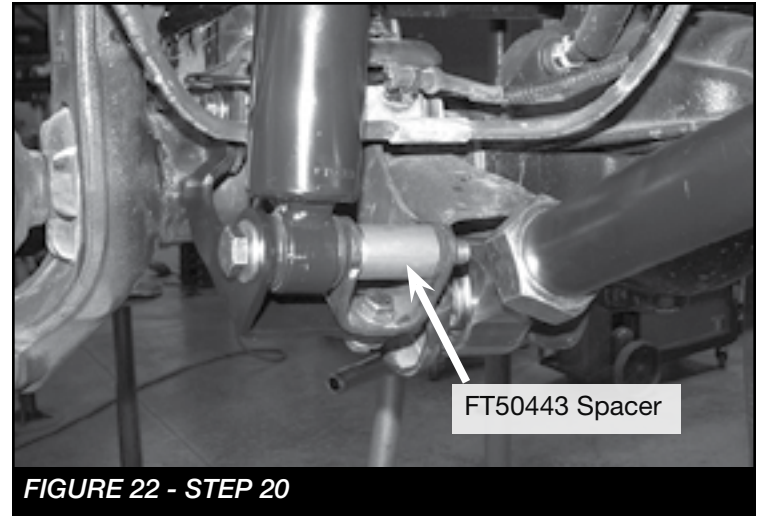

FIGURE 22 - STEP 20
20. **(Lower Shock Mount)** Install the shock to the lower mount using the supplied 1/2" X 4-1/2" bolt and hardware as well as the FT50443 (Spacer) in the factory location. Torque to 106 ft-lbs. **SEE FIGURE 22**